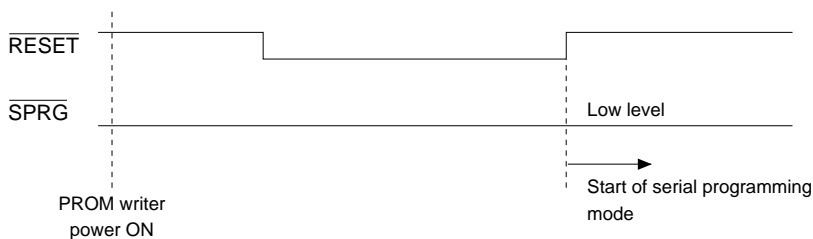

Fig. 6.2.2.1 Timing chart to start serial programming
**Input port (K) and I/O port (P) terminals:** Fix at a High or Low level.
- (2) Turn the IC (user target board) power (+5 V) on. A power voltage must be supplied to the  $V_{DD}$  and  $V_{SS}$  terminals same as the regular operation so that the OSC1 oscillation circuits operate normally.
- (3) Turn the PROM writer on.
- (4) Controls the  $\overline{\text{RESET}}$  and  $\overline{\text{SPRG}}$  terminals as shown in Figure 6.2.2.1.
- (5) Start up RW88F360.EXE in the personal computer. This allows serial programming to begin.